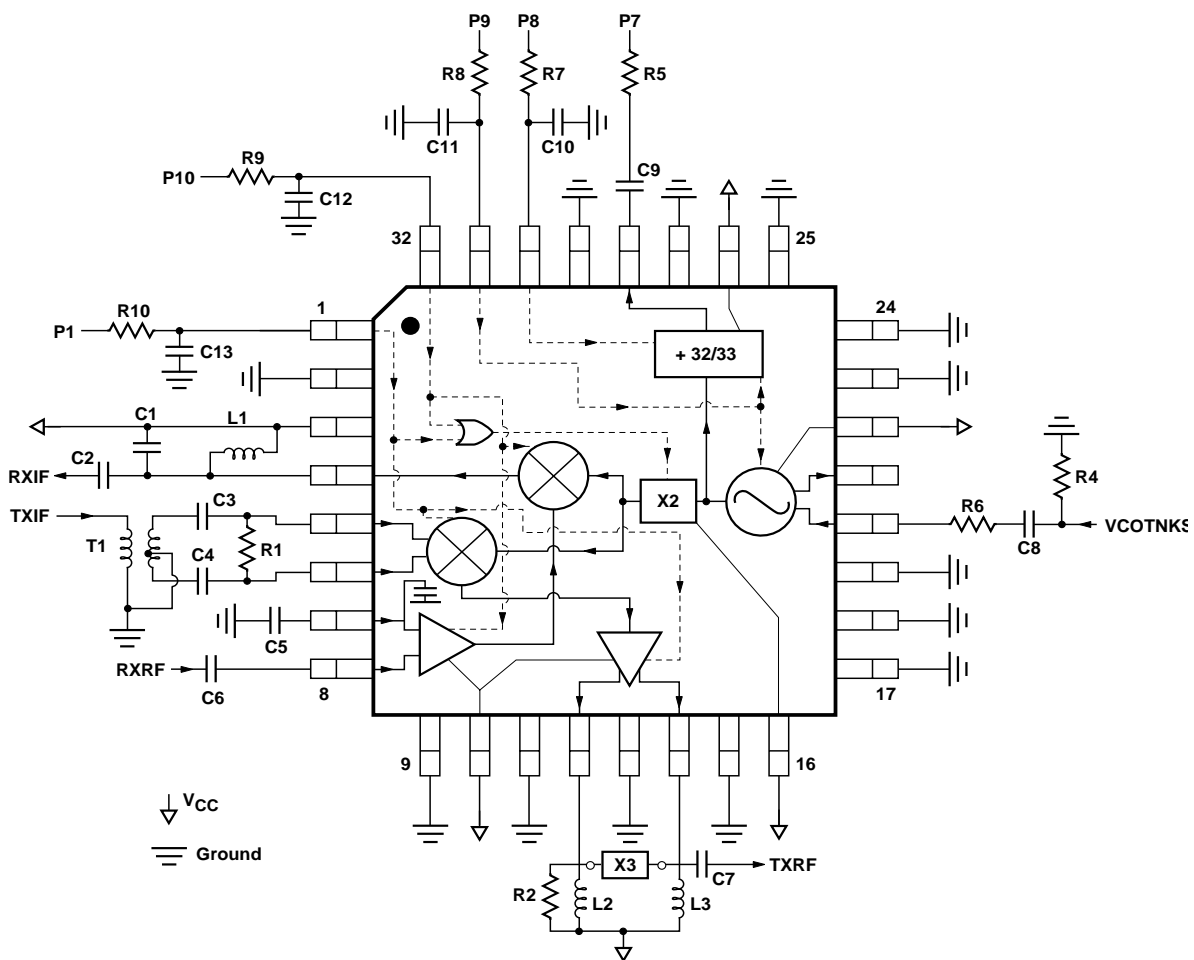

Figure 28. Test Board Schematic Diagram. All I/O Labels Correspond to Those on the Test board. See Table 3 for Component Values.
- DIV output AC coupled into a  $2\text{ k}\Omega \parallel 10\text{ pF}$  load. See test diagram, Figure 28.
**Table 3.** Test Board Components Shown in Figure 28.
For transmit upconversion, a differential narrow-band modulated signal is AC-coupled into the TXIF and TXIFB inputs. The differential signal may be generated by the HPMX-5002 IF Demodulator/Modulator. Once on-chip, the signal is buffered and applied to a double-balanced Gilbert cell mixer. The upconverted RF signal is then amplified to generate a -0.6 dBm single-ended, single-sideband power signal at the 1 dB compression point. The RF outputs, TXRF and TXRFB, are open-collector outputs (see test diagram Figure 28 for recommended matching network). The TXRF output is AC-coupled into a 50  $\Omega$  transmit filter. This signal is then filtered and amplified off-chip by an external power amplifier before it is switched into the antenna. The HPMX-5001 may also be used in DECT systems which utilize direct modulation of the ILO for data transmission. In this case, either the TXIF or TXIFB input, but not both, must be tied to  $V_{CC}$  to cause the upconverting mixer to act as a buffer stage.
In receive mode, a preamplified RF signal is passed through an image filter and applied as a single-ended signal to the 50  $\Omega$  RXRF input. Use of a 2.7 pF blocking capacitor is recommended. RXRF is the non-inverting input of the RF input amplifier. The inverting input of this amplifier, LNAREF, is self-biased and requires only an external capacitor (recommended value of 3.3 pF) to ground. The receive downconversion mixer also employs a double-balanced Gilbert cell configuration. The production version of the HPMX-5001 will have two equivalent open collector outputs. The HPMX-5001 can operate at IF frequencies up to 300 MHz (see Figure 28 for recommended matching network).